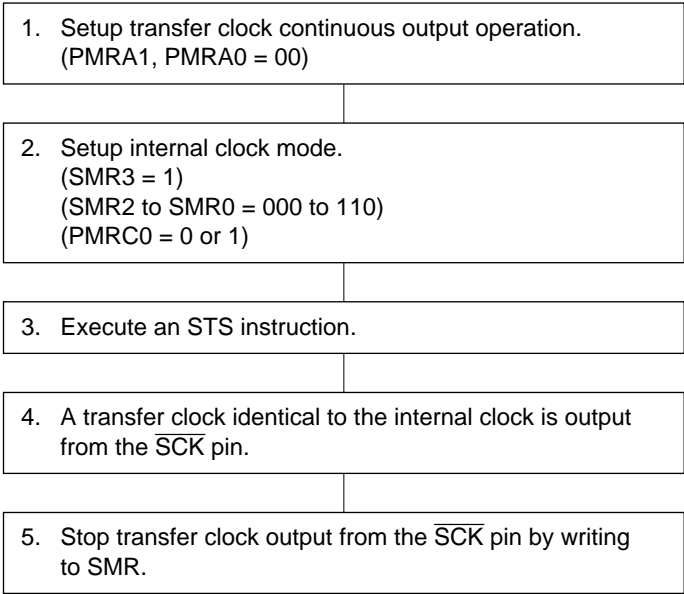

Figure 20-15 Transfer Clock Continuous Output Operation Procedure
(5) Transfer Clock Continuous Output Operation: Figure 20-15 shows the transfer clock continuous output operation procedure.